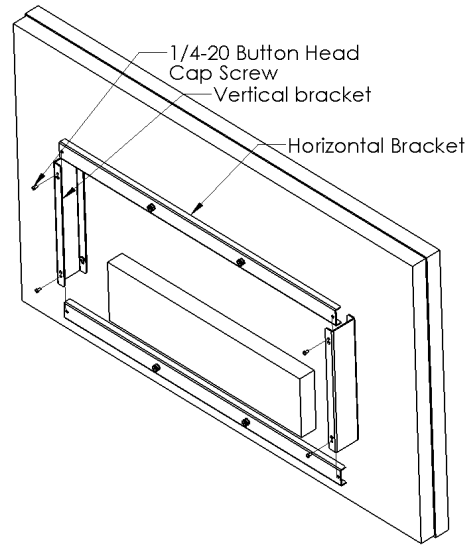
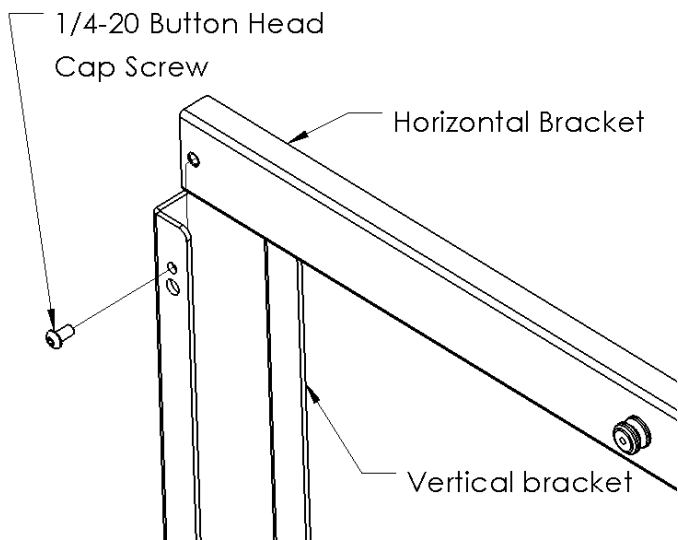

Figure 4
Figure 5
3. Attach the two vertical brackets to the Vertical brackets using four 1/4-20 button head cap screws. (see Figure 4 and Figure 5).